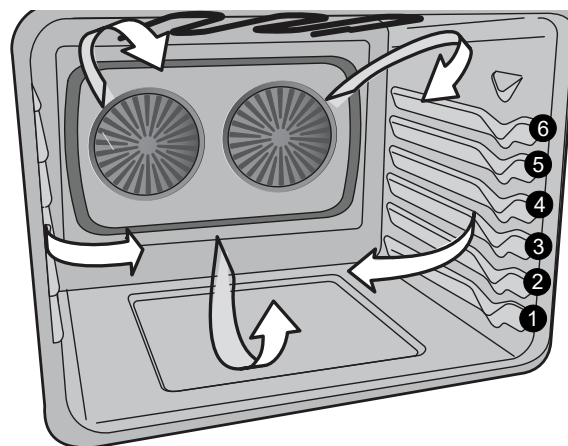

Figure 5: Rack positions
2. Place pan in oven on rack position 3 (Figure 5) and close oven door. AccelaHeat is designed for baking on a single oven rack placed in the center of the oven.